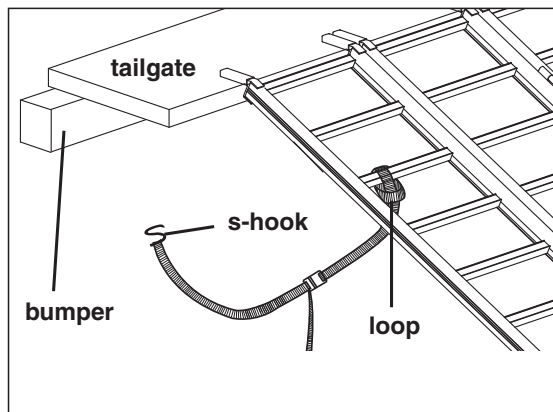

FIGURE 1
1. Attach the two provided securing straps to the third cross tread from the tailgate end (one on each side of ramp). Wrap the loop end of each strap around the cross tread and thread the buckle and "S" hook end thru the loop. This permanently attaches straps to the ramp. **SEE FIGURE 1.**